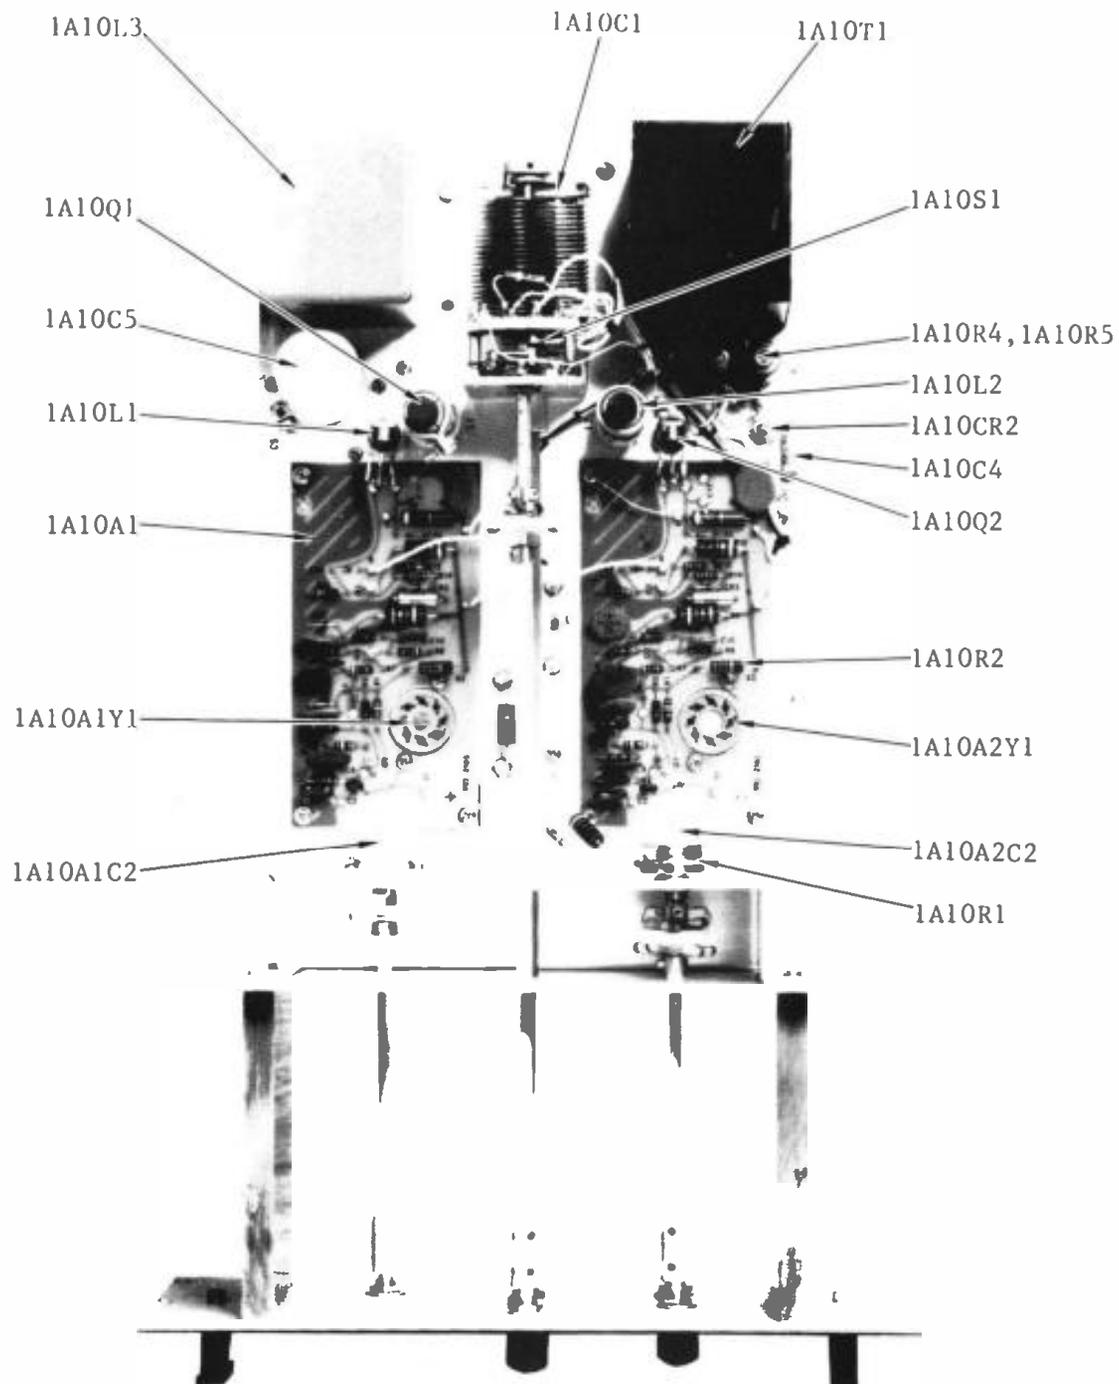
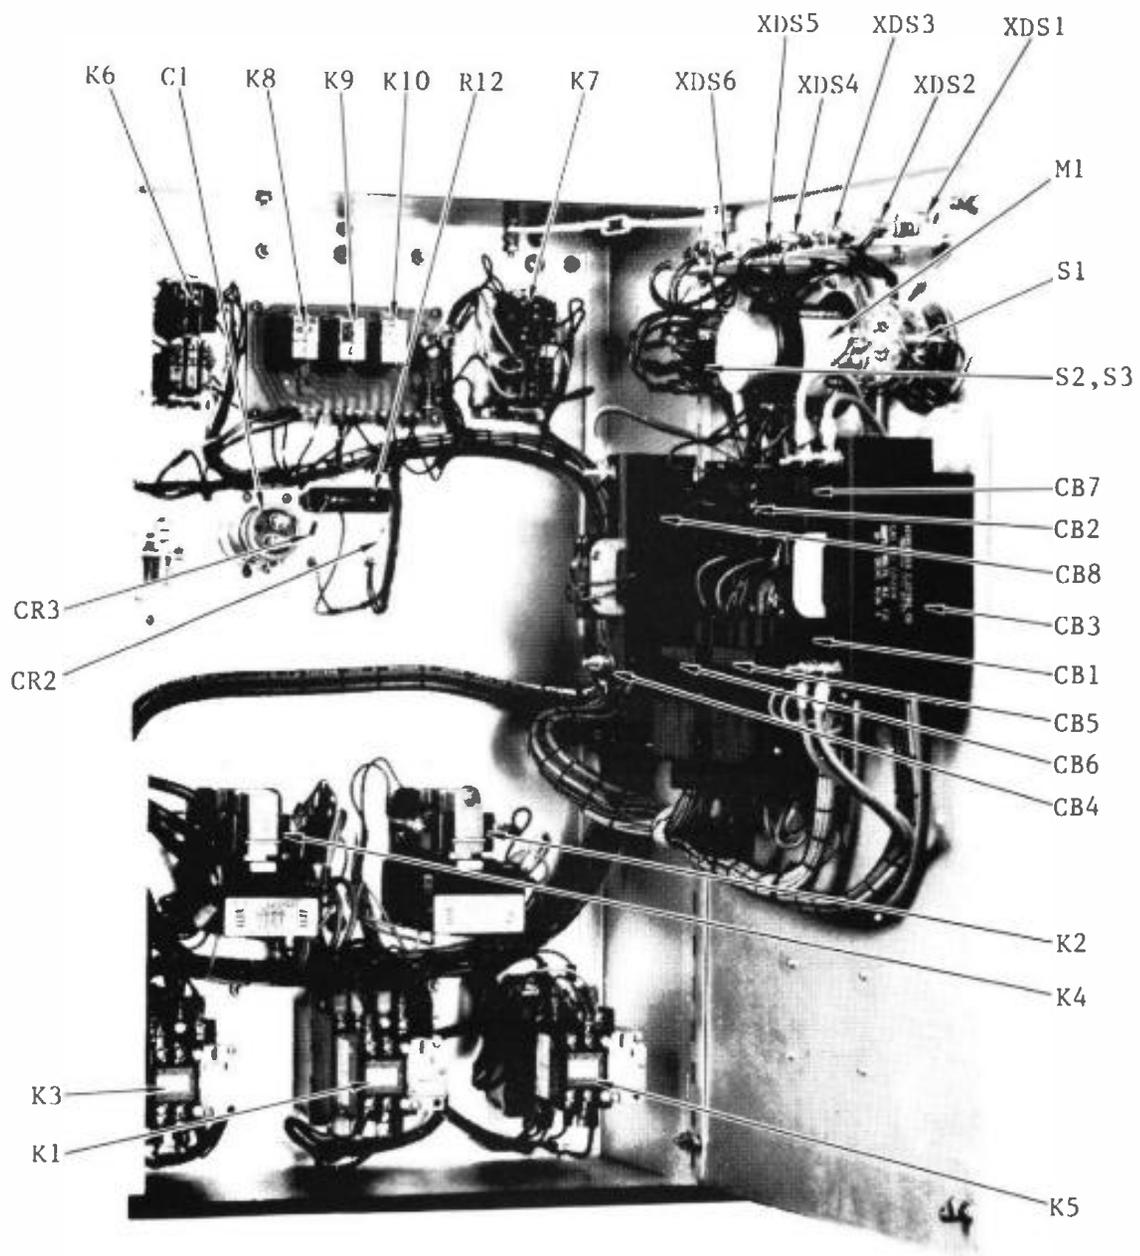
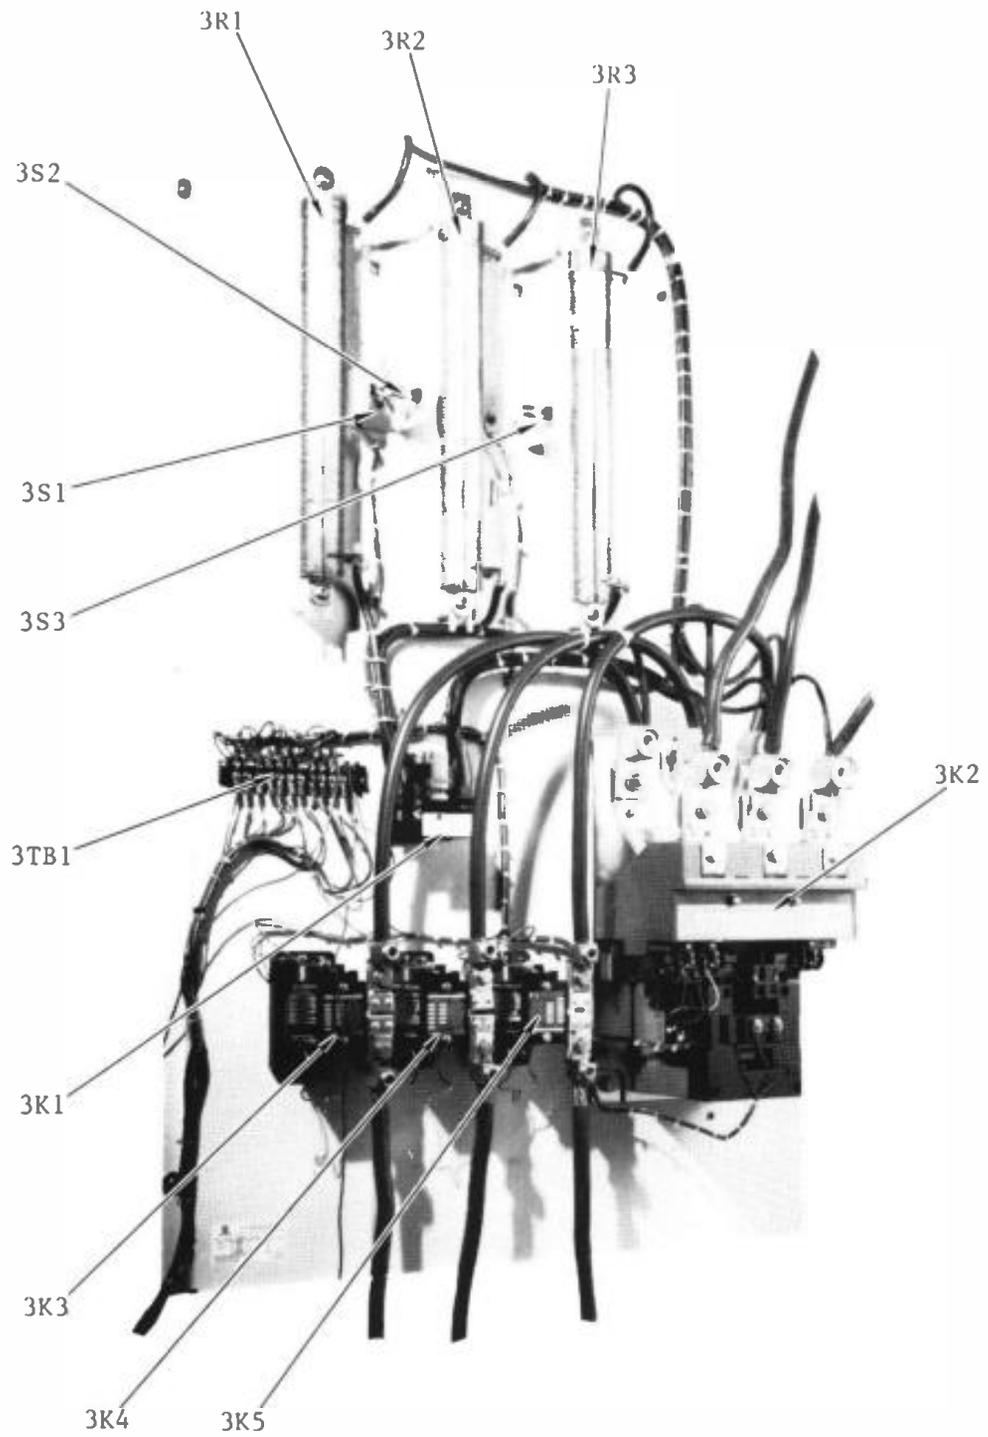

Figure 2-13. Oscillator Top
Figure 2-15. Control Panel
Figure 2-16. High-Voltage Step-Start Assembly
d. For reference during assembly, the Oscillator is shown in figures 2-13 and 2-14, the control panel is shown in figure 2-15, and the High-Voltage Step-Start Assembly is shown in figure 2-16.
- e. Three 12 cc bottles of dashpot fluid are supplied with the transmitter which must be added as required to the oil bowls of the High-Voltage Step-Start Assembly magnetic overloads (3K3, 3K4, 3K5 figure 2-16). Adjustments are provided on the overload relays for both overload current and time delay. The overload value is set by rotating the armature on its threaded core. A tab aligns with markers on the armature to indicate the overload current. The amount of delay is determined by the quantity of oil in the dashpot. Only enough oil should be used as is required to stop the contactor from pumping when voltage is applied. If no pumping has occurred, no oil should be added.